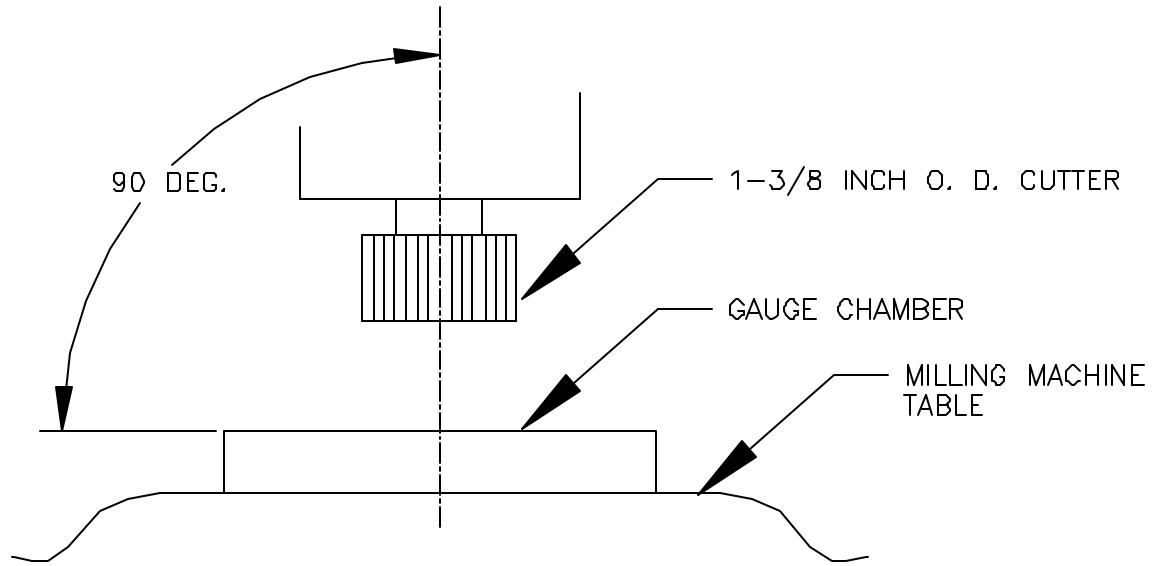

FIGURE 5
3. A milling machine using a 1-3/8 INCH diameter cutter as shown in Figure 5, is required to remachine the gasket seating surfaces.